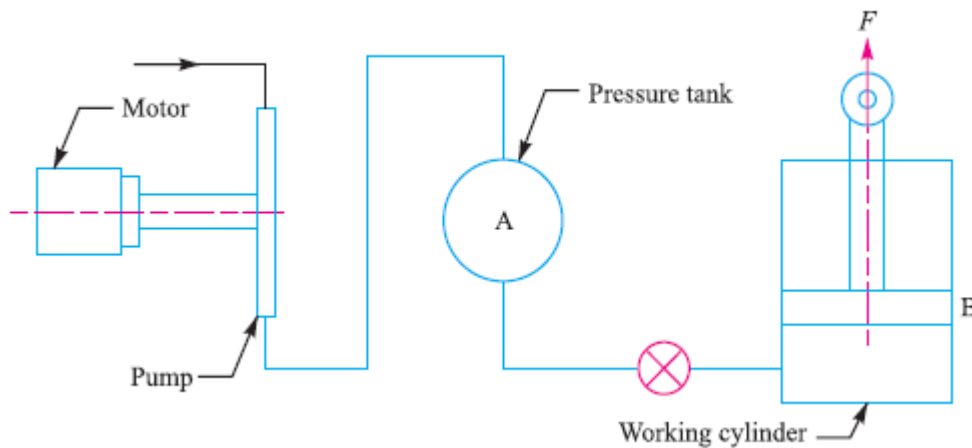

fig. 1.1
- a) An hydraulic control for a straight line motion, as shown in Fig.1.1 Utilises a spherical pressure tank 'A' connected to a working cylinder B. The pump maintains a pressure of 3 N/mm² in the tank.